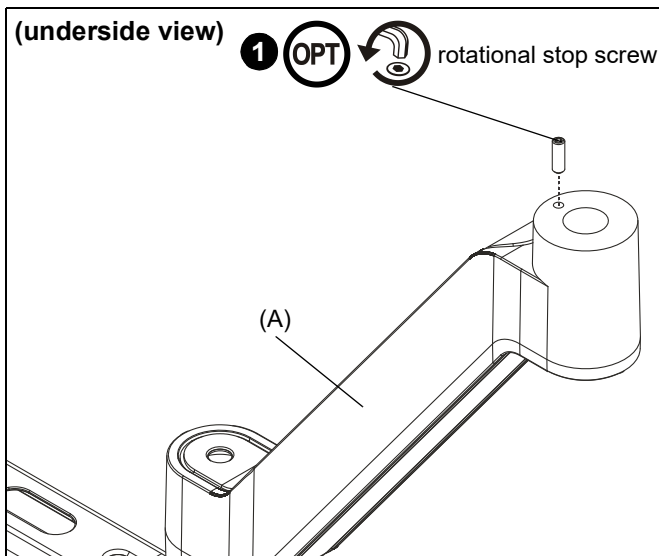

Figure 6
IMPORTANT ! : If rotational stop is not desired, rotational stop screw must be removed prior to installing arm to base assembly. (See Figure 6)
1. (Optional) Use hex key to remove rotational stop screw if rotational stop feature is not desired. (See Figure 6)
NOTE: This section only applies if the pivot stop screw is removed. (See Figure 6)